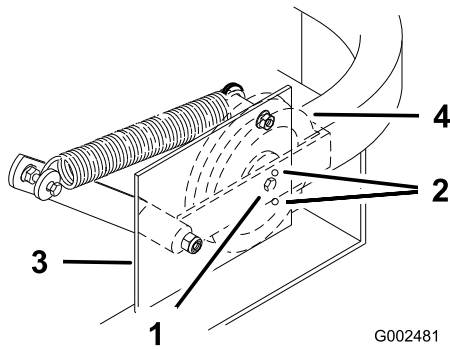

Figure 46
Important: Check and make sure the belt is installed into both the front and rear belt guides (Figure 46).
4. Check the belt tension. The spring loaded idler center bolt needs to be near the top alignment hole in left support plate (Figure 46).